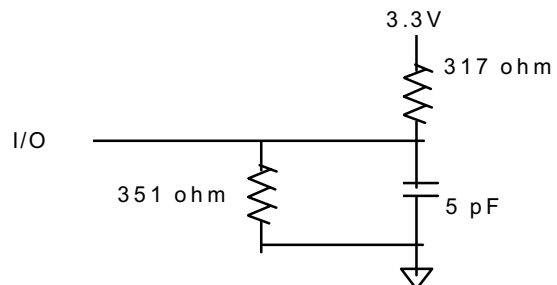

Fig.2 Output Load Equivalent
6. Output loading is specified with  $C_L=5pF$  as in Fig. 2.